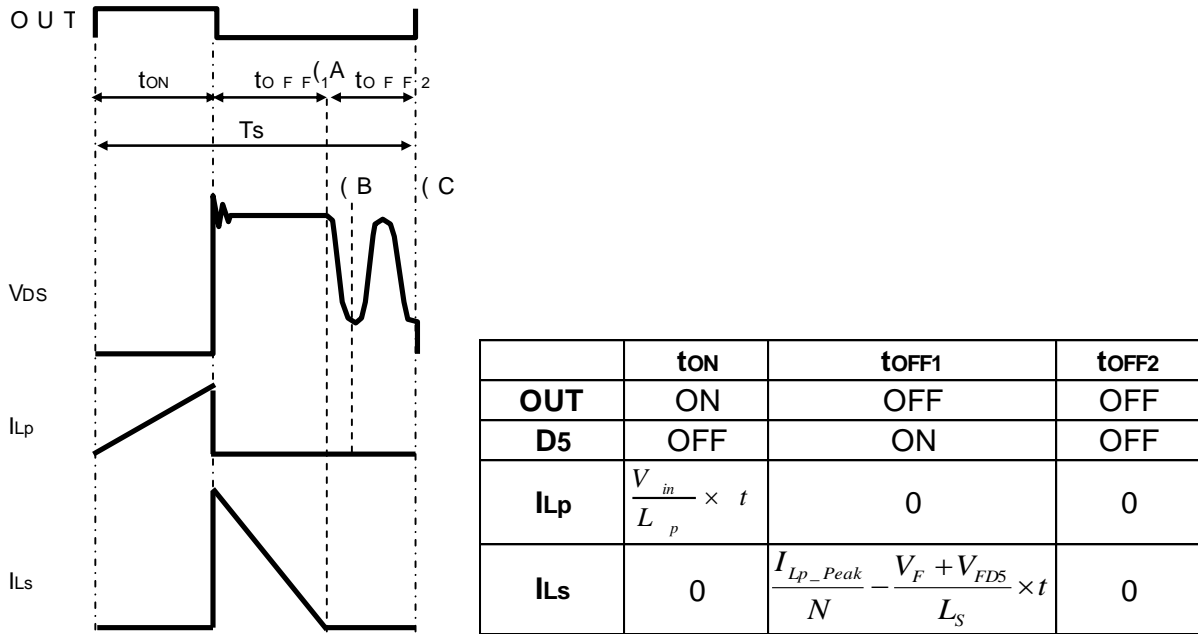

Figure 5. DCM flyback mode wave form
Figure 5 is showing a wave form image on DCM flyback operation of OUT pin voltage, Q1 drain-source voltage (VDS), transformer primary side current (ILP) and transformer secondary side current (ILs).
The AP1601 fixed frequency mode is using the T1 auxiliary winding, waiting until the Q1 drain voltage falls off after the secondary current becomes zero, then moves to the next cycle. Approximations of “tON, toFF1” time requirement in Figure 5 are;
The shortest amount of the toFF2 time is between (A) and (B) shown in Figure 5. This is the reason why the drain voltage doesn't fall off immediately due to resonance caused by the primary side inductance (Lp) of the transformer and a parasitic capacitor (Clump) between Q1 drain and GND.